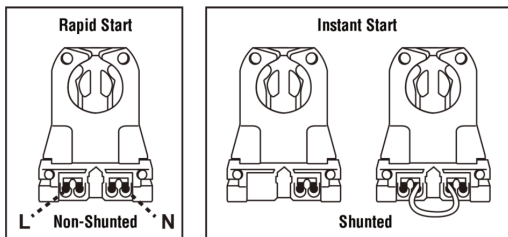

Fig:1 - Non-shunted & Shunted Lamp Holder
- 6) Ensure that the fixture contains non-shunted G13 bi-pin lampholders(Fig. 1).If socket lampholder are internally shunted,then replace with new non-shunted socket lampholders.If socket lampholders are shunted with a jumper wire,remove wire to convert into non-shunted sockets.